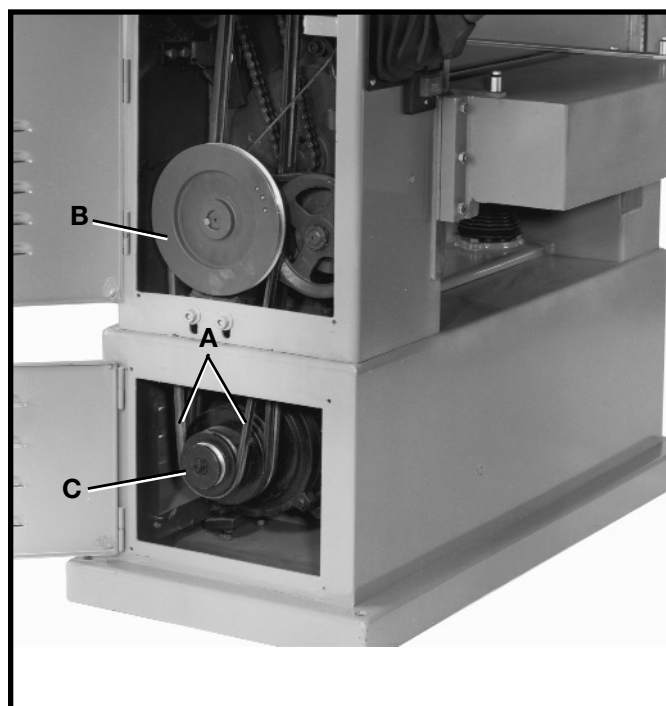

Fig. 30
Proper tension on the feed roller belt is obtained when there is approximately 1/2" deflection, using light finger pressure on feed roller belt (A) Fig. 30, midway between pulleys (B) and (C), with feed roller lever (D) engaged.
- Engage feed roller lever (D) Fig. 30.